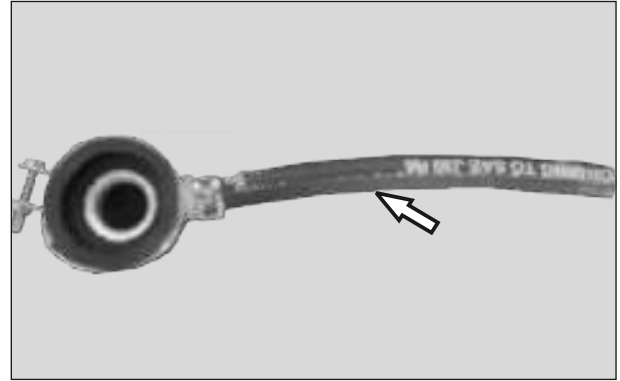

Fig. 7.10
- This is a special rubber hose, which carries low - pressure gas from the pressure reducer to mixer through flow control valve. (Fig. 7.10)